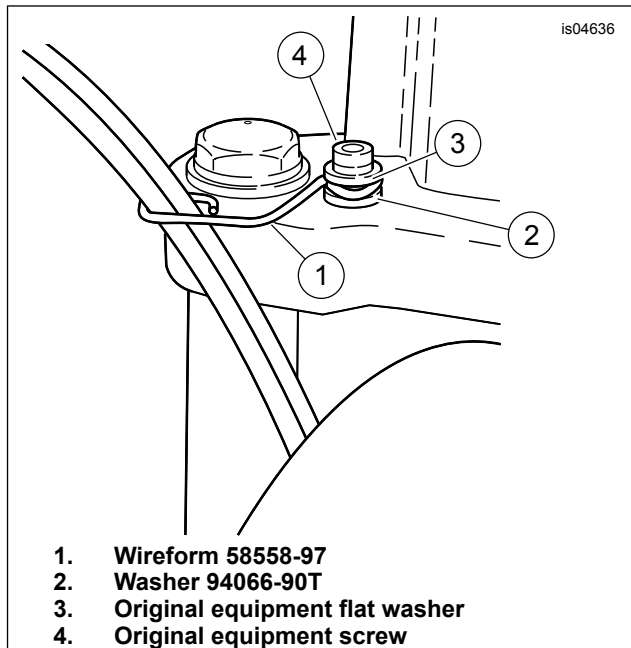

Figure 4. Throttle Cable Attachment
- See Figure 4. Use wireform and washer from kit.